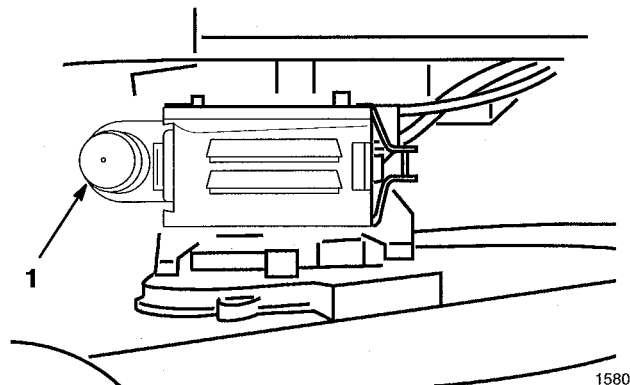

Figure 15
3. Push primer three (3) times (Fig. 15). Wait about two (2) seconds between each push.